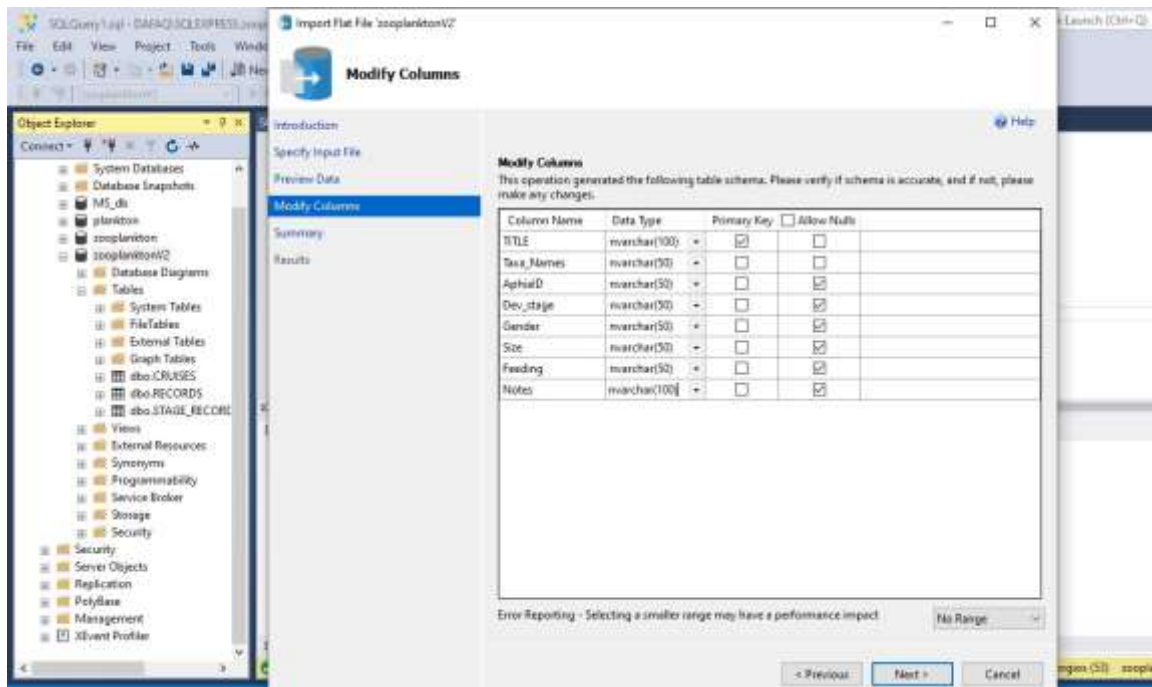

Figure 35 Species_info table
---Import Species_info table with flat file import wizard (Figure 35)